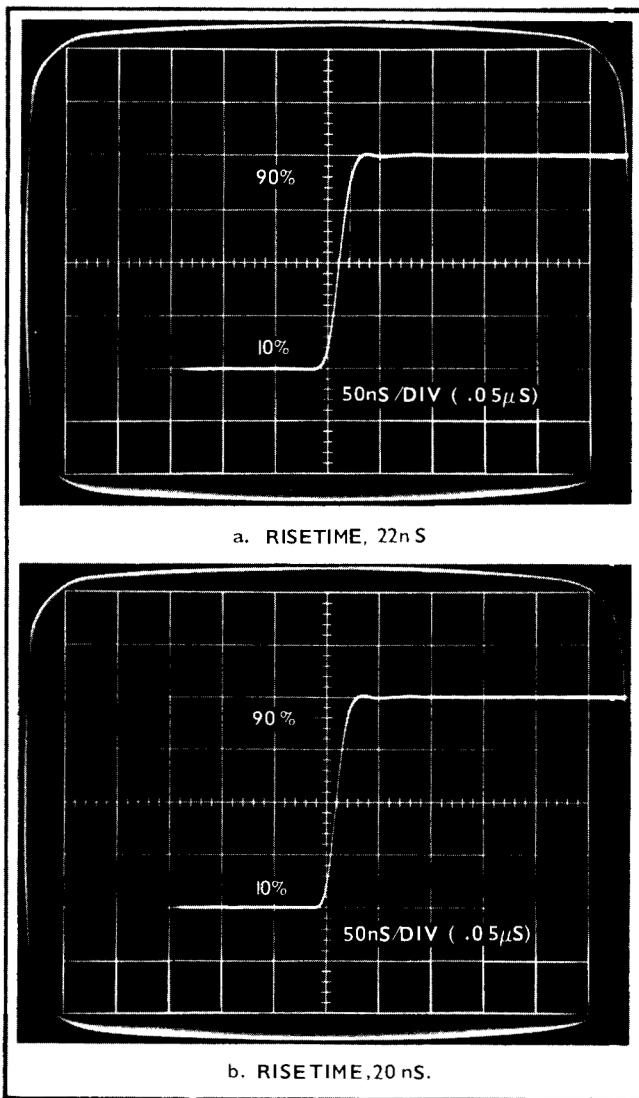

Fig. 5-10. Difference in risetime measurement using Type 105 (A) and Type 106 FAST RISE (B).
b. Increase the sweep rate to at least 0.05 μ sec/div (.50 nsec/div) and obtain stable triggering on the rising slope of the signal. The display should be similar to Fig. 5-10. Measure the risetime between the 10% and 90% points as shown in Fig. 5-10.